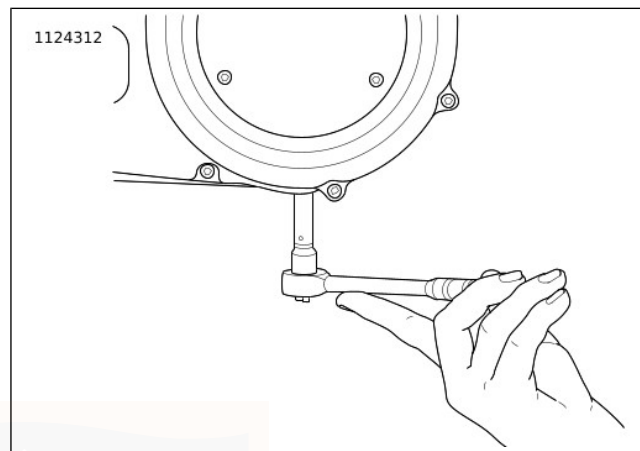

Figure 53. Removal/Installation of Chaincase Drain Plug
3. See Figure 53. Drain primary chaincase.